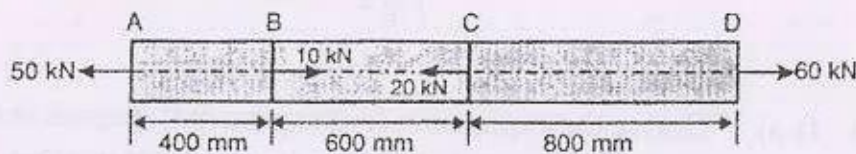

Fig. 2
- b)** The bar ABCD of uniform cross section 20 mm in diameter is subjected to load as shown in fig.2 Determine [6]